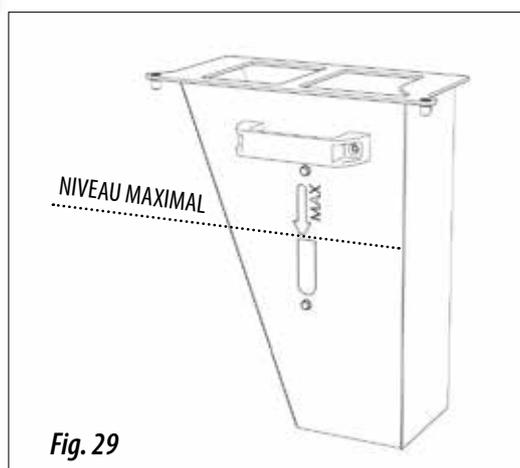

Fig. 29
**IMPORTANT :** NE PAS DÉPASSER LE NIVEAU MAXIMAL INDIQUÉ SUR LA BOÎTE DE COLLECTE (Fig 29).